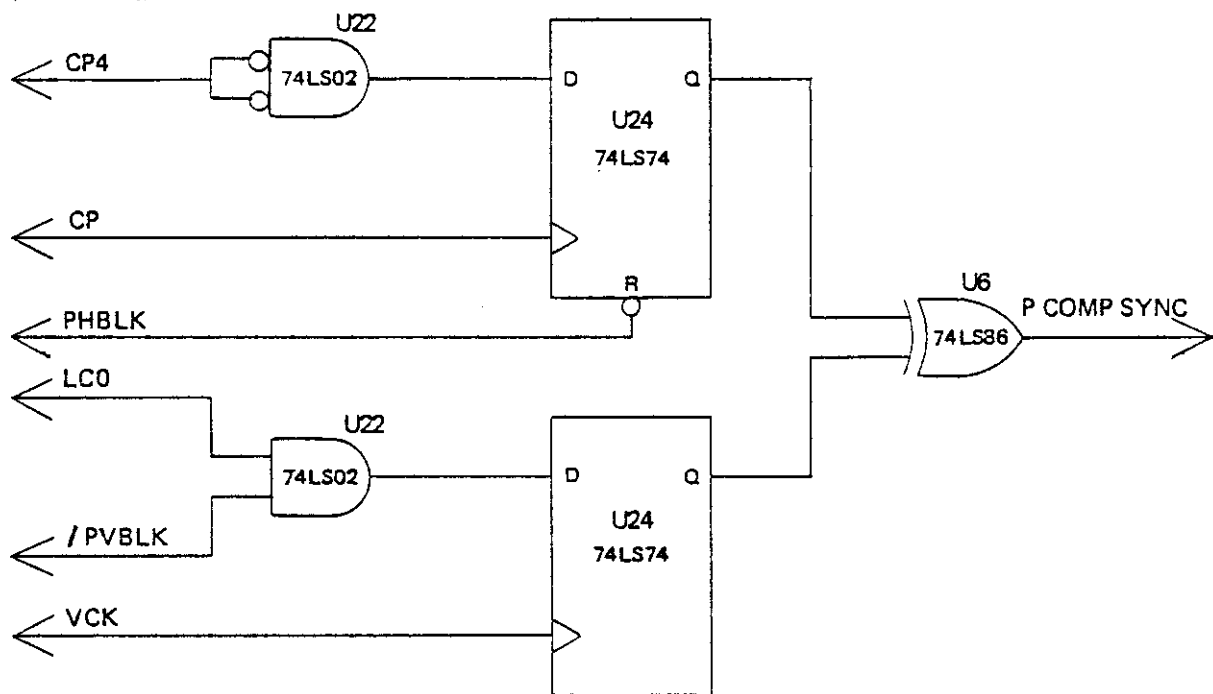

FIGURE III-9 SYNC GENERATION
5) SYNC GENERATION: The horizontal and vertical sync pulses are generated by the circuit shown in Figure III-9. The horizontal sync signal PHSYNC is generated by using a 74LS74 flip-flop to essentially AND together CP3, /CP4 and PHBLK. The resulting signal is high only during the second quarter of PHBLK. The vertical sync signal PVSUNC is generated by using another section of a 74LS74 as a one bit shift register. The first half of PVBLK is decoded then phase-shifted by VCK. Note that PVSUNC is longer than one-half the length of PVBLK because of the phase relationship